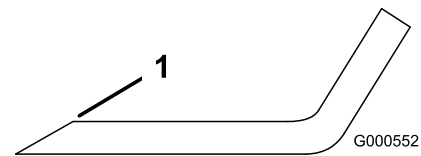

Figure 54
1. Use a file to sharpen the cutting edge at both ends of the blade (Figure 54).
Note: If the blade is not balanced, file some metal off the end of the sail area only (Figure 54).